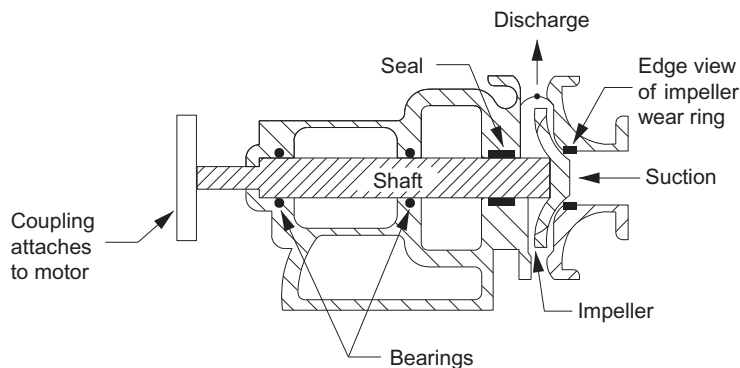

FIG. 48.2 A centrifugal pump.
- Renew the impeller wear ring to reduce the impeller to wear ring clearance to design (Fig. 48.2).